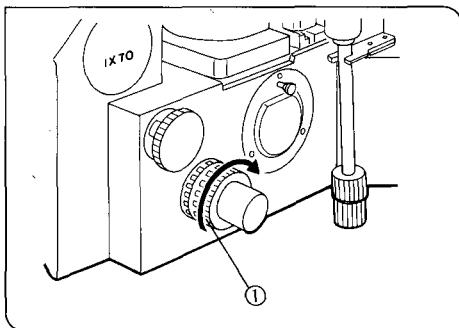

Fig. 19
(Figs. 19, 20)
- Turn the coarse adjustment knob (1) in the direction of the arrow to lower the revolving nosepiece. (Fig. 19)